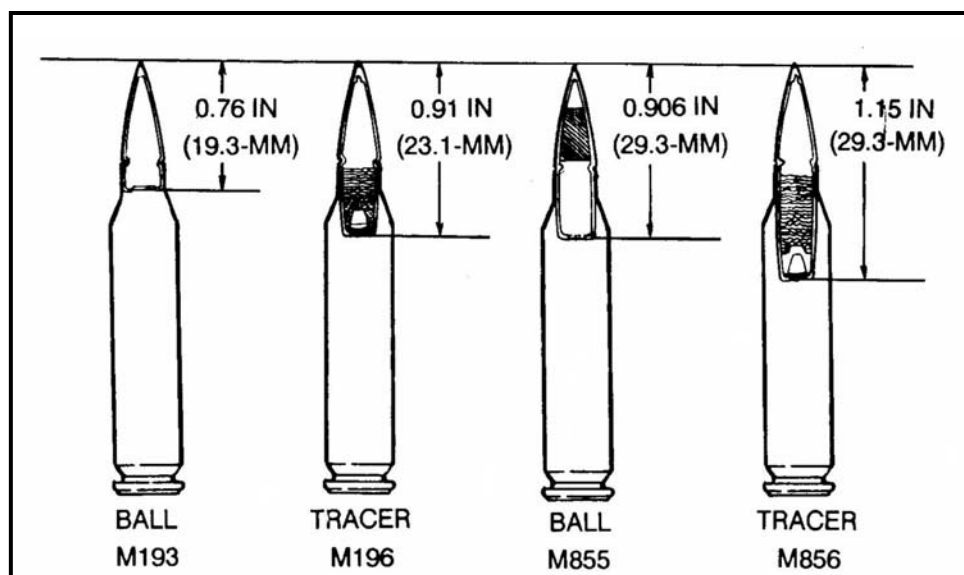

Figure 5-32. Projectile differences.
a. **Internal Ballistics.** The overall dimensions of the combat service 5.56-mm cartridges are the same, which allows cartridges to be fired safely in M16A1 or M16A2 rifles and the M4 carbine. There are internal differences that affect firing accuracy. An ammunition comparison is provided in Figure 5-32.